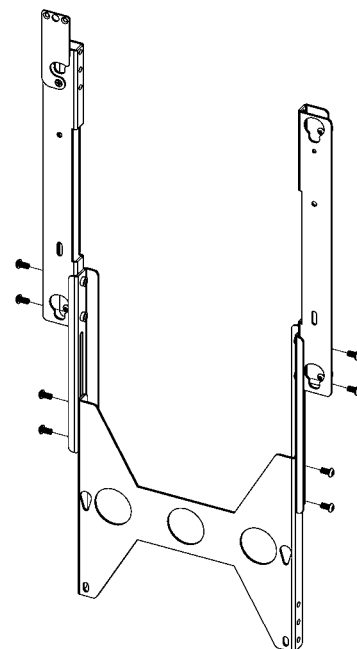

Figure 5. Bottom Portion Assembly
3. Install left upright (30) on left speaker mount button support (10) using two 1/4-20X1/2" button head cap screws (130) (see Figure 5).
4. Install right upright (40) on right speaker mount button support (20) using two 1/4-20X1/2" button head cap screws (130) (see Figure 5).
5. Install height adjustment plate (50) on left upright (30), with left speaker mount button support attached, using two 1/4-20X1/2" button head cap screws (130) (see Figure 5).
6. Install height adjustment plate (50) on right upright (40), with left speaker mount button support attached, using two 1/4-20X1/2" button head cap screws (130) (see Figure 5).